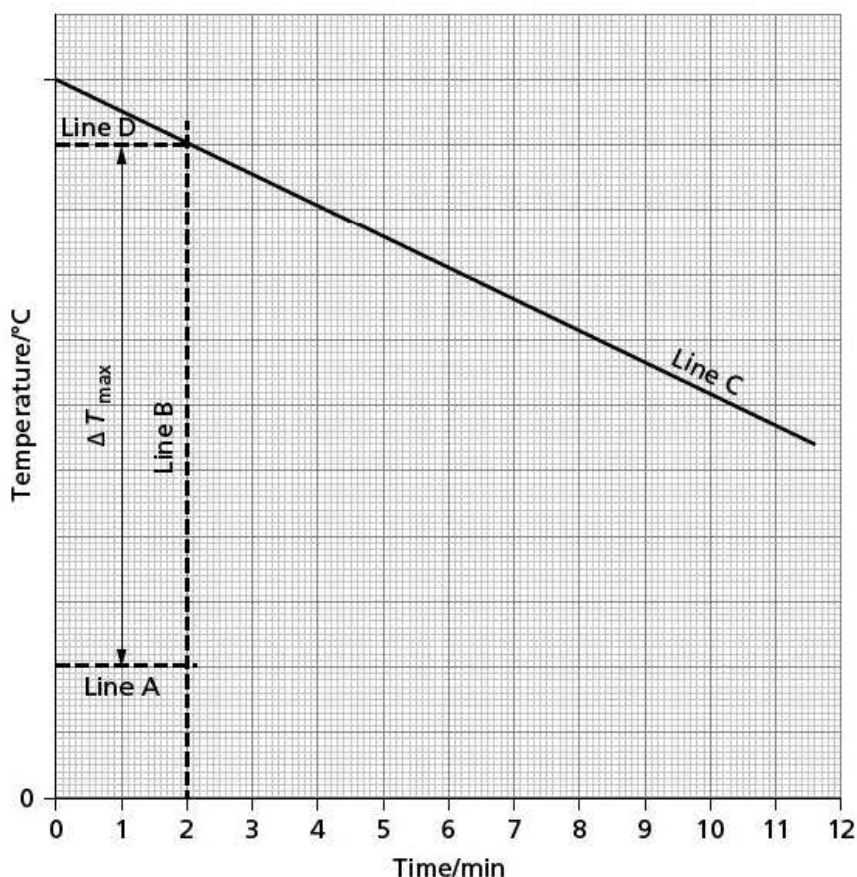

Figure 2
You will notice, from the shape of your graph, that the maximum temperature rise does not occur exactly when the iron filings have been added to the copper(II) sulfate. To work out the maximum temperature rise follow Figure 2.
- Using a ruler draw lines A, B, C and D as shown on Figure 2. [4]
- The theoretical maximum temperature change which could have occurred, had all the copper(II) sulfate reacted with the iron when it was added, is shown as ΔT_{\max} on the diagram. Determine what ΔT_{\max} would have been for your results. [2]